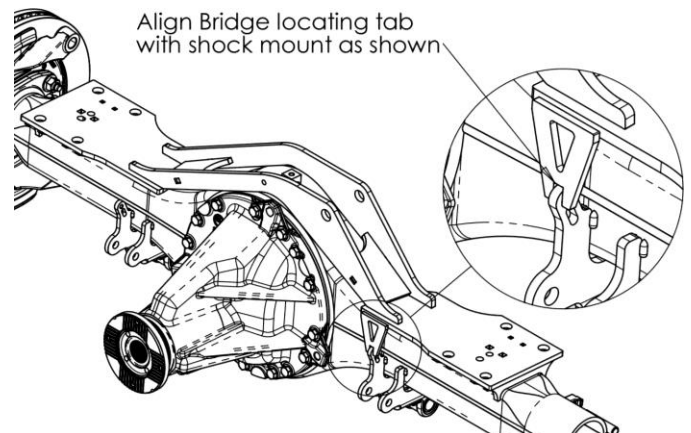

Figure 8: Locate Bridge on Shock Mount
2. Place the Bridge on top of the axle using the shock mount tab for locating. See Figure 8.